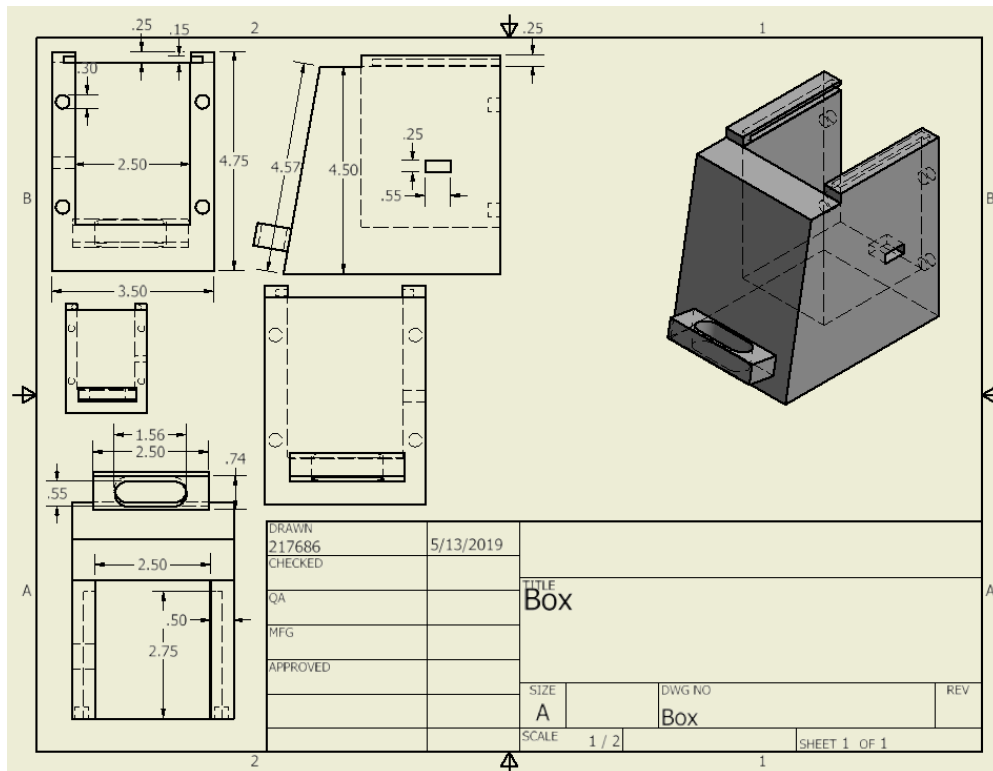

Figure 3-7
11. For reassurance of any dimensions for the box, they are shown in figure 3-7
3. Insert the PC board into the box (Figure 3-7).
6. Push the USB port into the rectangular hole in the side of the box (Figure 3-7).